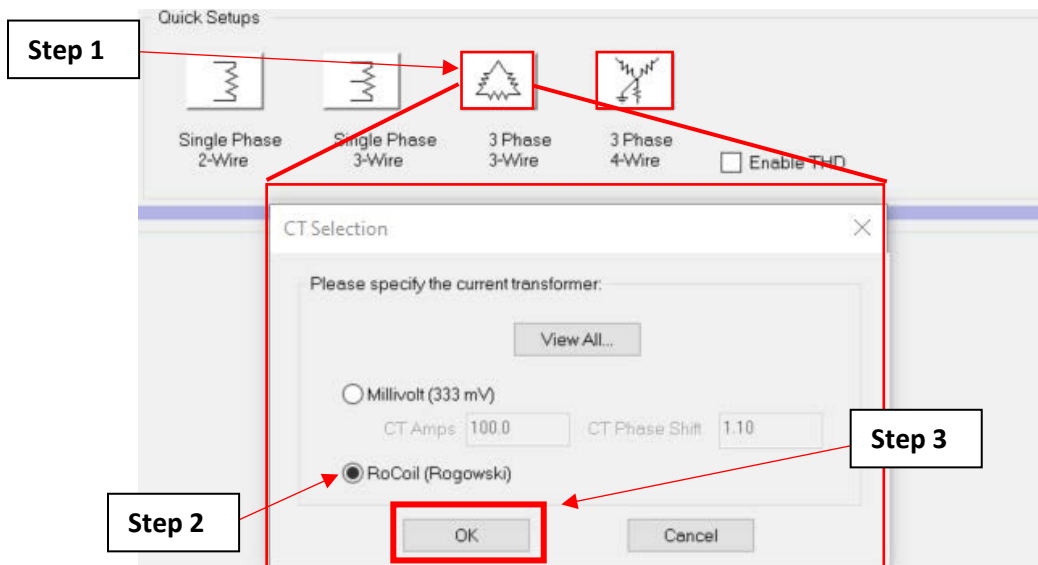

Figure A.3.7: CT Selection popup window.
1. Select the configuration in the Quick Setups section that best matches your panelboard configuration. In Figure A.3.7, “3 Phase 3-Wire” selected as an example.